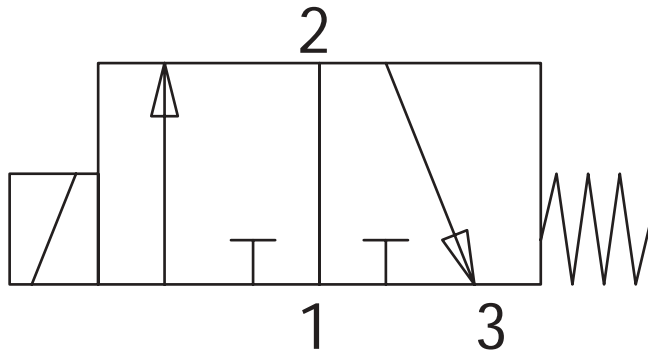

**Figure 3**
*Make sure that the studs (**Figure 3, item 2**) rotate inside the channel and engage with the conveyor.*
3. Tighten hex nuts (**Figure 3, item 1**) with wrench.